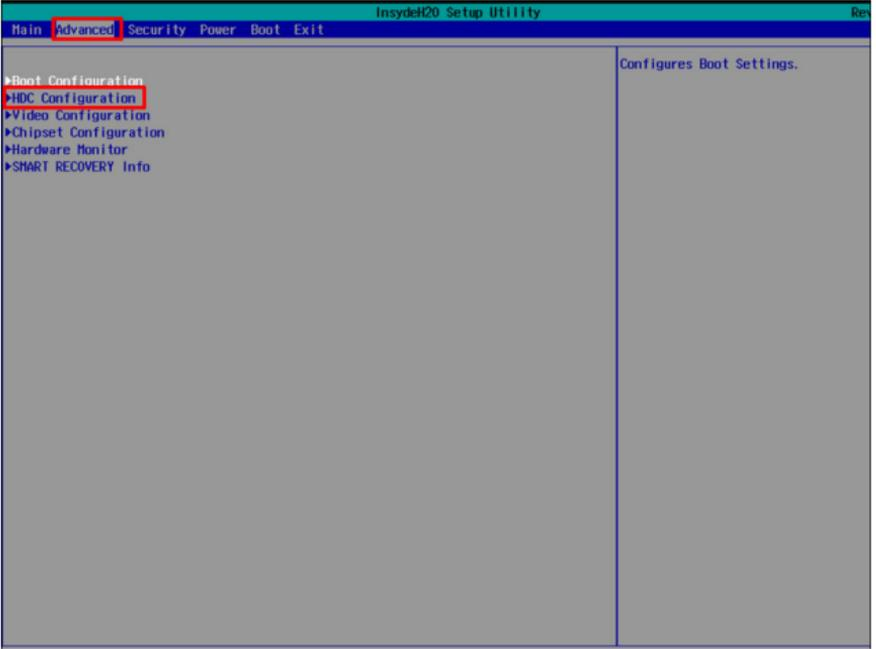

Figure 40
5.2 In the configuration screen, select **Advanced** → **HDC Configuration** as shown in Figure 40.